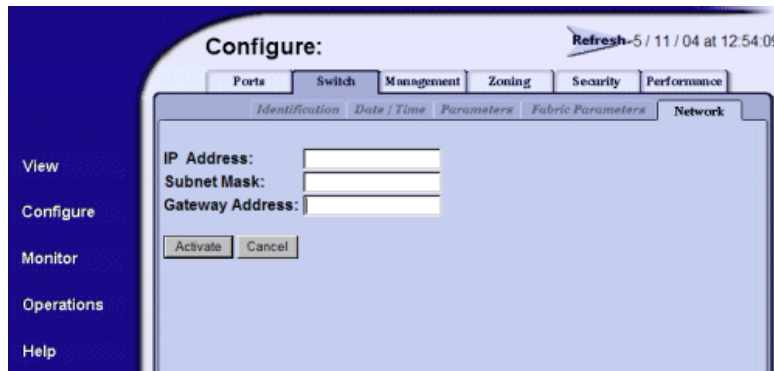

Figure 43: Switch page—Network tab
1. Choose **Configure > Switch > Network** to display the **Network** tab (Figure 43).